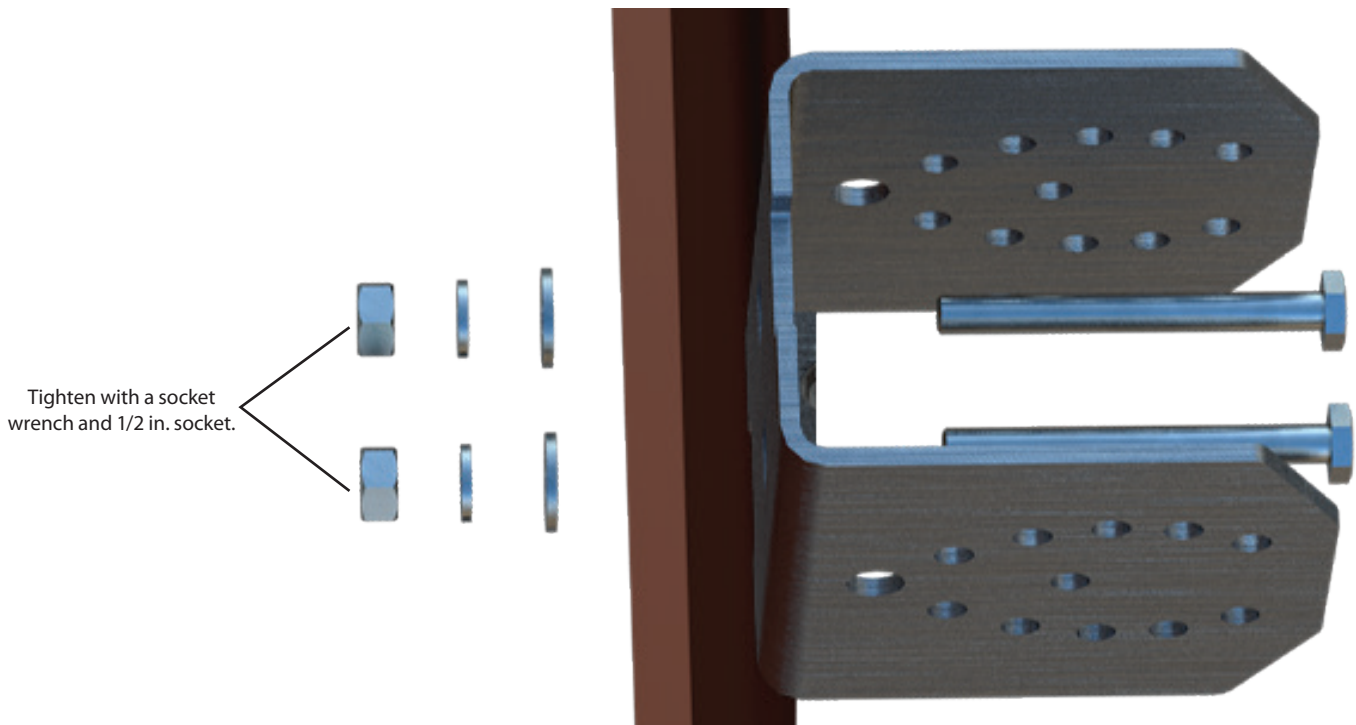

Figure 2
**A.1** Use the hardware from **Bag 3** to fasten the female bracket horizontally to the wall or surface as shown in Figure 2.